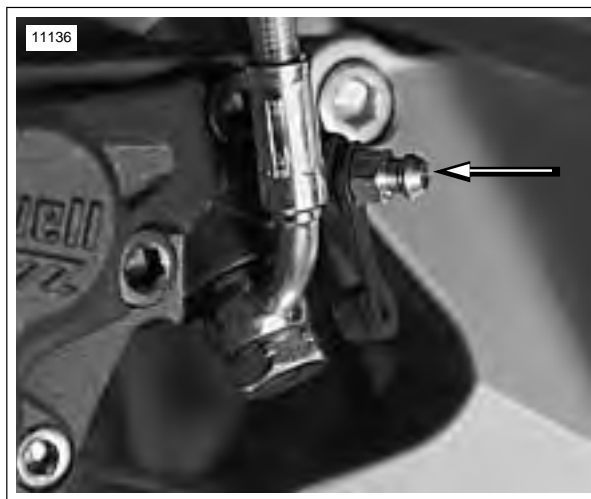

Figure 1-8. Front Caliper Bleeder Valve (cap removed)
1. See Figure 1-8. With motorcycle upright, install end of plastic tubing over front caliper bleeder valve and place other end in a clean container.